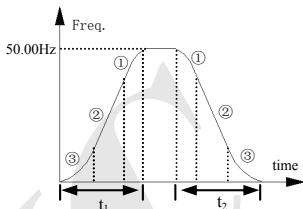

Fig.6-2 S curve Acce/Dece
1: S-curve Acce/Dece mode. Output frequency increases or decreases according to an S-shaped curve, Just as shown in Fig.6-2.
S Curve starting time is shown as Fig.6-2③, slope of output frequency variation increases by degrees from 0.